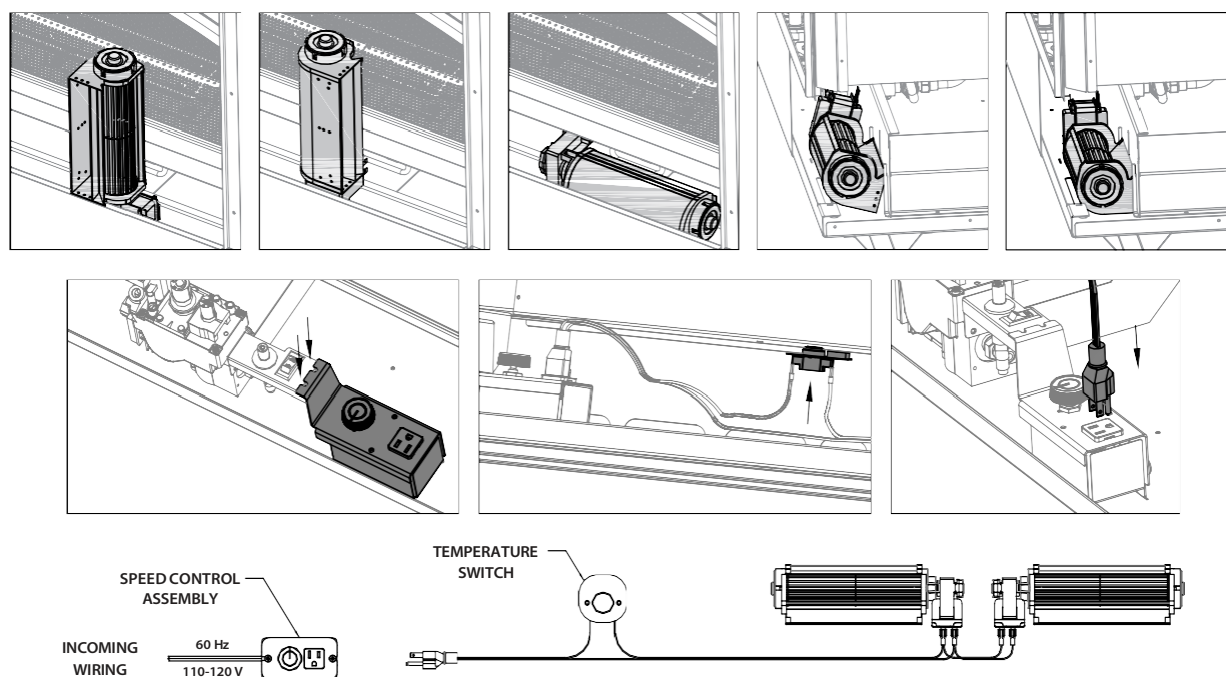

FIGURE 9.5 Optional Fan Installation and Wiring
3. Position fan as shown in FIGURE 9.5. As you rotate the fan
5. Mount the speed control assembly onto the bracket on the gas valve. Align the slots in the speed control assembly with the holes in the bracket. See FIGURE 9.5 below. Secure with (2) black philips head screws (included).
8. Attach the temperature control switch (magnet attached) to the firebox floor, centered between the right side of the gas valve and the right side of the appliance, as shown in FIGURE 9.5.